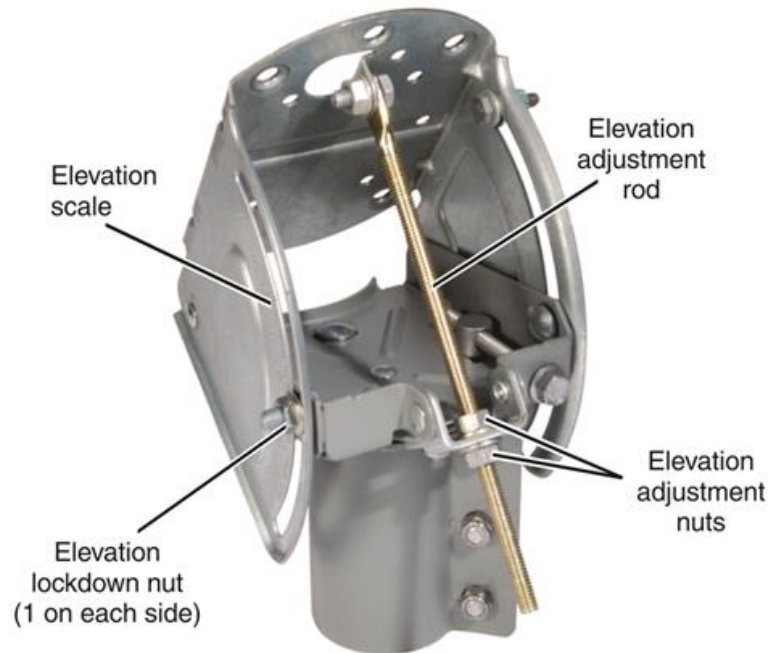

Figure 28: Elevation adjustment components
1. Loosen the elevation lockdown nuts on each side of the Az/EI mount. See Figure 28.